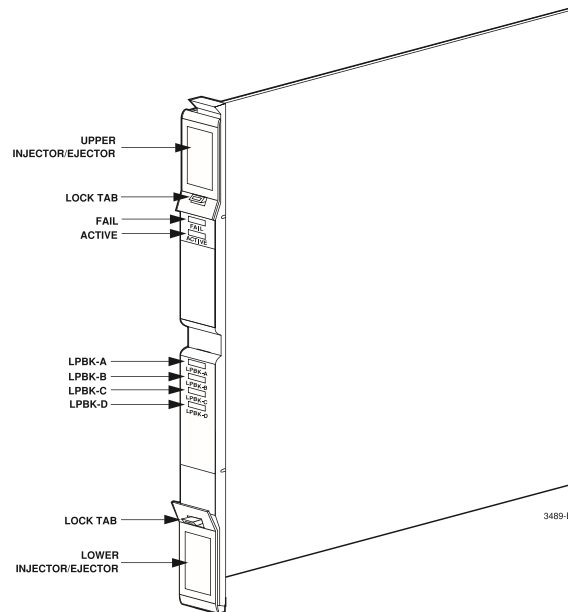

Figure 5-11. DS1U or DNIU unit
3. Release the lock tabs on the DS1U/DNIU to free the upper and lower injector/ejectors as shown in Figure 5-11.